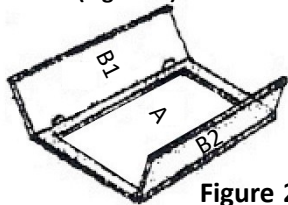
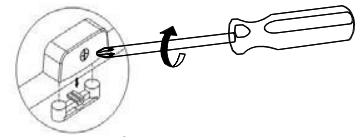
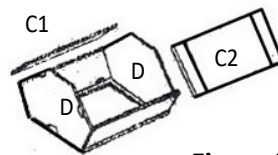

Figure 2
Figure 3
Figure 5
**2. Installing the Front Side Panels (B1 & B2):** Insert the right and left front side panels into the grooves of face frame (A) and align the cam lock connectors (Figure 2). Lock the cam lock with a screwdriver by turning the screw 180° clockwise (Figure 3)
**4. Installing the Rear Side Panels B-2 (Figure 5)** Position the rear side panels (C1 & C2) so that the panel connectors align to the top panel (D), bottom panel (D), and front side panels (B1 & B2). Gently work the panels into position. Make sure that it fits well and lock the cam lock connectors. (Figure 3)